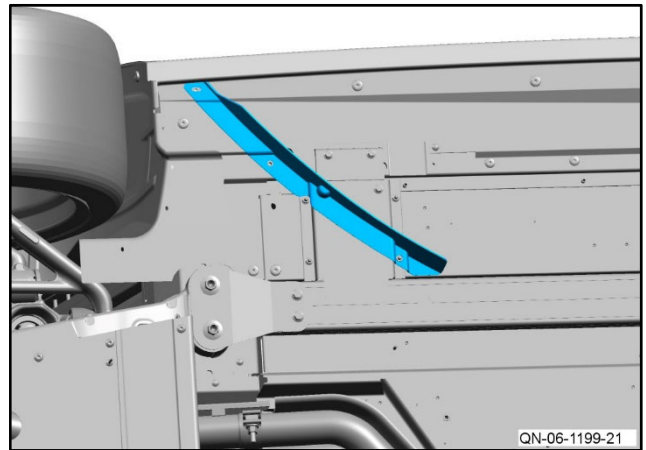

Figure 30
- 29** Remove and discard the right side aero fence (refer to Figure 30).